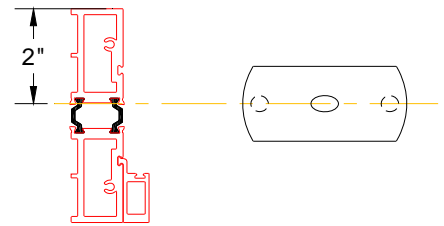

Figure 10:
3. The floor plate is to be 2" from the back of the jamb and level (Figure 10).